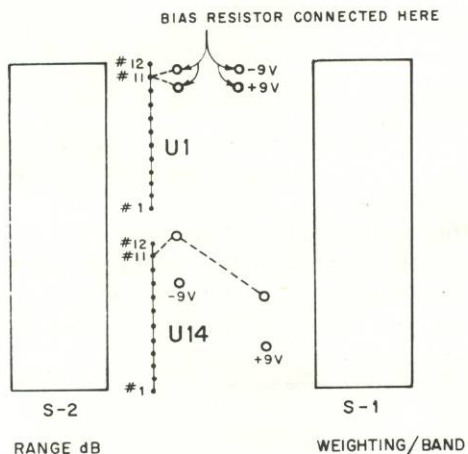

Figure 4-2. Power supply bias adjustment diagram.
- Remove the existing bias resistor. Refer to diagram in Figure 4-2.